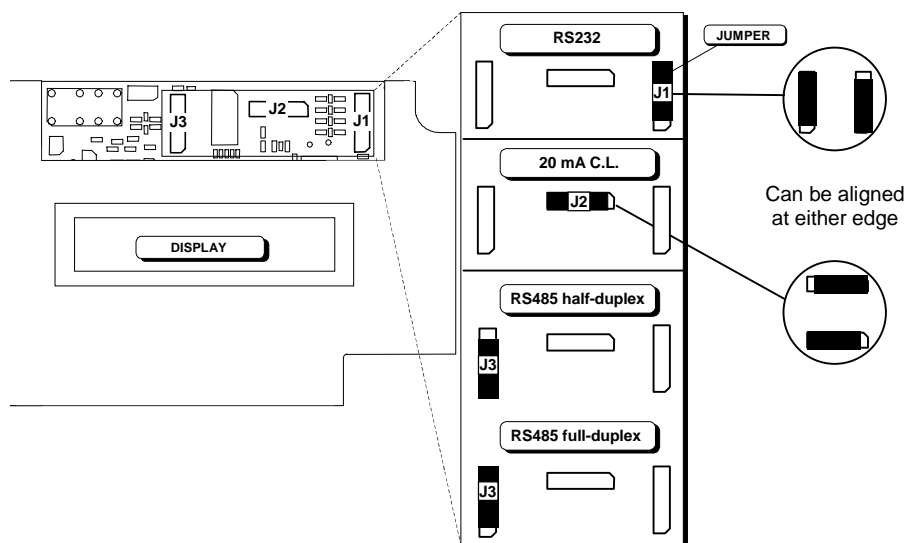

Figure 2.3 - DS8100 main interface selection
2. Position the jumper onto the correct connector as indicated in Figure 2.3.